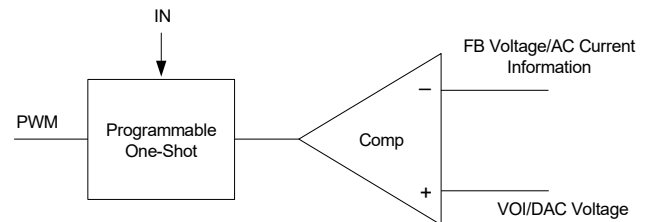

Figure 9. Simplified Control Schematic
The control algorithm of AOZ2233CQI-22 is constant-on-time PWM control with input feed-forward. The simplified control schematic is shown in Figure 9. The high-side switch on-time is determined solely by a one-shot whose pulse width is inversely proportional to input voltage (IN). The one-shot is triggered when the internal VOI/DAC voltage is higher than the combined information of output voltage and the AC current information of inductor, which is processed and obtained through the sensed low-side MOSFET current once it turns-on. The added AC current information can help the stability of constant-on-time control even with pure ceramic output capacitors, which have very low ESR. The AC current information has no DC offset, which does not cause offset with output load change, which is fundamentally different from other  $V^2$  constant on-time control schemes.